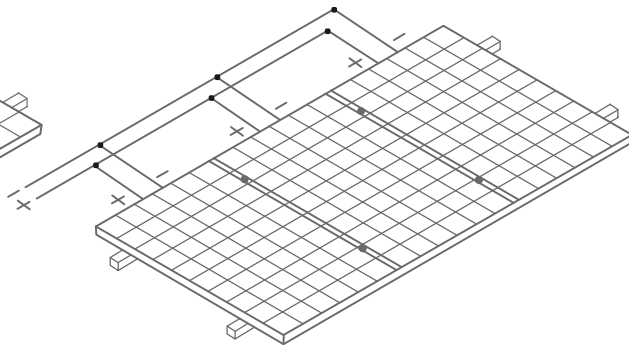

Figure 6 Parallel connection mode
- When connected in parallel, the output current of the whole series of the modules is equal to the current sum of each branch module or module series (parallel connection mode is shown in Figure 6). Each series of modules should be fused. Please refer to the national or local specifications. Refer to the formula for the maximum number of modules connected in parallel:  $\text{Maximum protection current} / (1.25 * \text{short circuit current})$ .